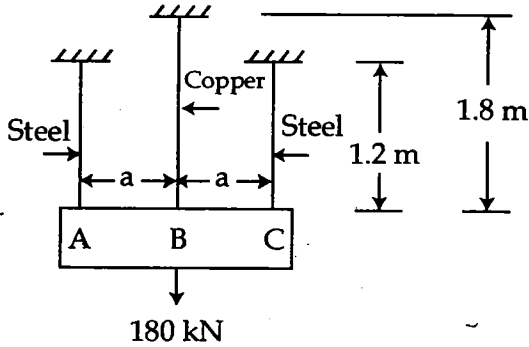

Fig. 5
- (b) A rigid block ABC, weighing 180 kN is supported by three rods symmetrically placed as shown in fig.5. Assuming the block to remain horizontal all the times, determine the stress in each rod after a temperature rise of 25°C. 10